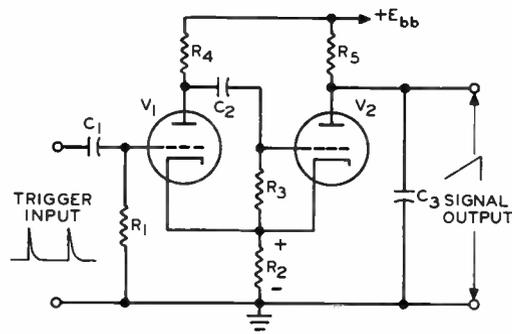

FIGURE 16
Sawtooth-forming capacitor  $C_3$  in the circuit of Figure 16 continues to **CHARGE** as long as (A)  $V_2$  is cut off. (B)  $V_1$  is cut off. (C)  $V_2$  conducts. (D) the trigger pulse lasts.